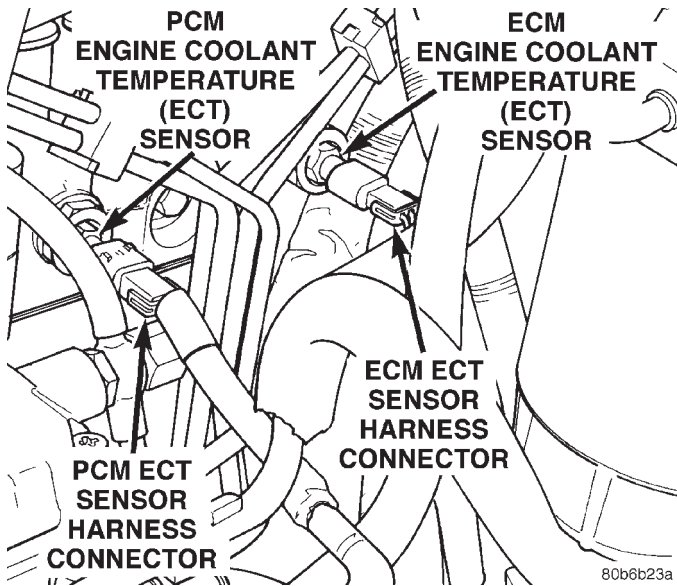

Fig. 25 Engine Coolant Temperature Sensors
- (9) Disconnect the engine coolant temperature sensor electrical connector (Fig. 25). Located closest to the injection pump.